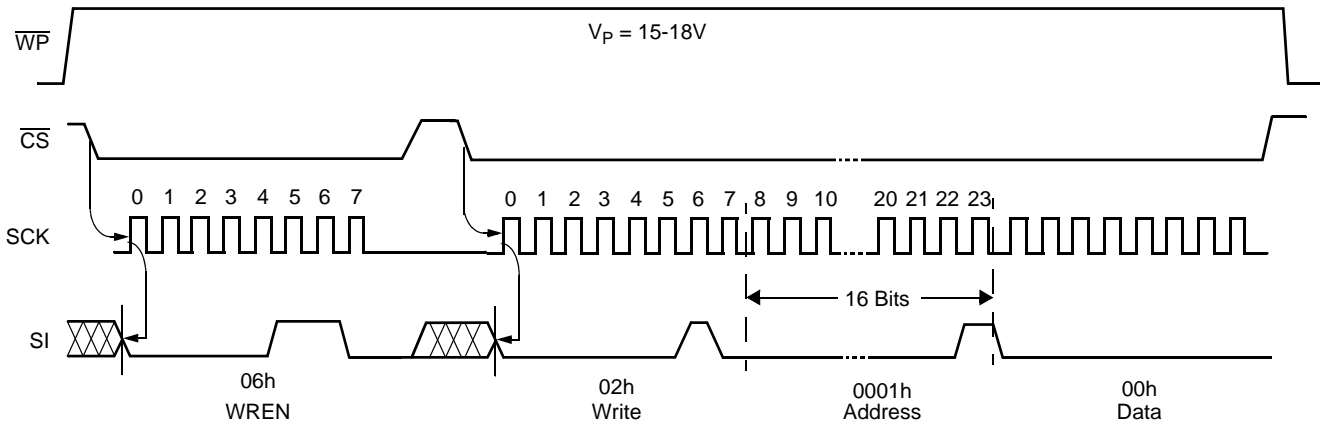

FIGURE 1. SET V_{TRIP} LEVEL SEQUENCE (V_{CC} = DESIRED V_{TRIP} VALUE)
0000 0001	Write status instruction—followed by: Block lock/WDT byte: (See Figure 1) 000WD ₁ WD ₂ 000 --->no block lock: 00h-00h--->none of the array 000WD ₁ WD ₂ 001 --->block lock Q1: 0000h-00FFh--->lower quadrant (Q1) 000WD ₁ WD ₂ 010 --->block lock Q2: 0100h-01FFh--->Q2 000WD ₁ WD ₂ 011 --->block lock Q3: 0200h-02FFh--->Q3 000WD ₁ WD ₂ 100 --->block lock Q4: 0300h-03FFh--->upper quadrant (Q4) 000WD ₁ WD ₂ 101 --->block lock H1: 0000h-01FFh--->lower half of the array (H1) 000WD ₁ WD ₂ 110 --->block lock P0: 0000h-000Fh--->lower page (P0) 000WD ₁ WD ₂ 111 --->block lock Pn: 03F0h-03FFh--->upper page (PN)